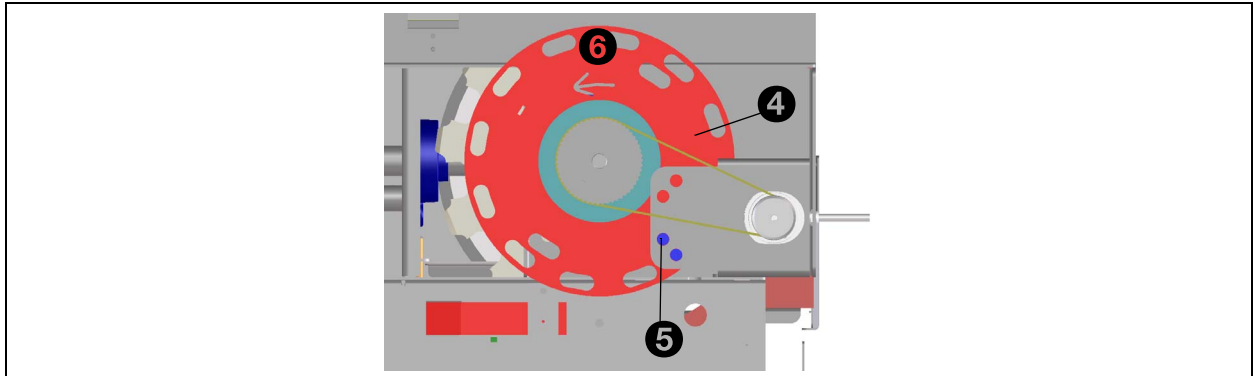
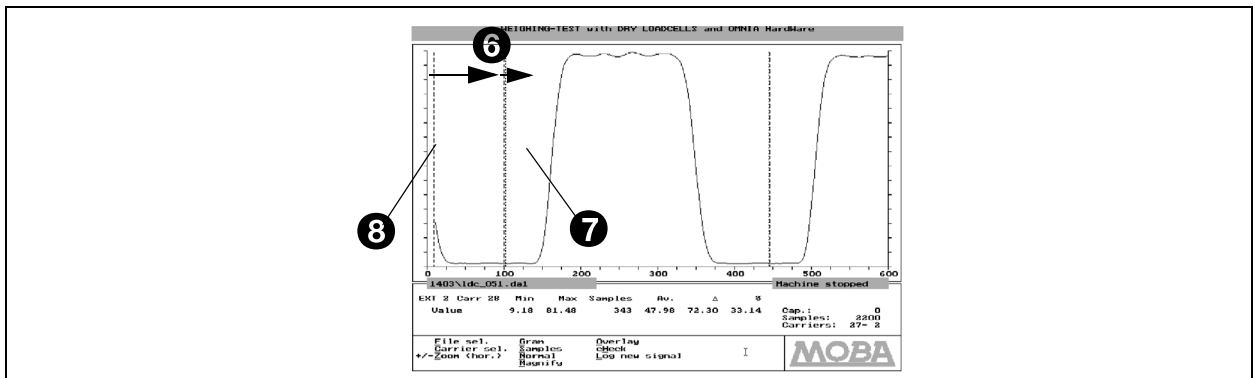

Fig. 125 - Main timing disk
Fig. 126 - Weighing signal
2. Loosen bolts of the Main timing disk (4). See fig. 125.
3. Turn the Main timing disk until the sensor (5) just lights up. The sensor detects the innermost two holes of the Main timing disk.
**When adjusting the Main timing disk note the rotation direction of the Main timing disk. The rotation direction is indicated with the arrow (6) on the Main timing disk. See fig. 125.**
6. The dotted line (6) on the value '100' is the switching moment of the sensor (5). See fig. 125 and fig. 126.
7. Adjust the Main timing disk in such a way that the graphical illustration on the screen corresponds with the illustration shown in fig. 126.